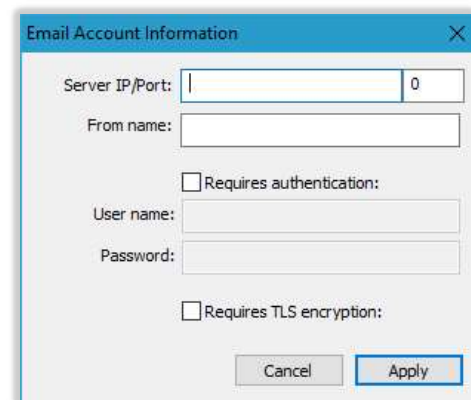

Figure 37
- e. Enter SMTP server information. *Figure 37*